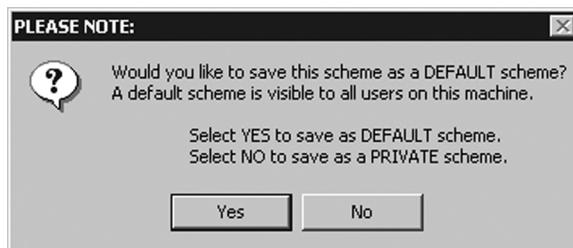

Figure 36
**Note:** If you make any changes to any of the settings of one of the three default schemes, the Current Scheme field will blank and you MUST SAVE your changes by clicking on the “Save As ...” button. When you click on the “Save As ...” button, the name of the last scheme you used will be automatically displayed, you can then choose to use that scheme name or enter a new name. If you enter a name other than one of the three default scheme names, the program will ask you if you wish to save the scheme as a DEFAULT scheme (figure 36 below). Click “Yes” to save the settings scheme as a DEFAULT scheme, click “No” to save the scheme as a PRIVATE scheme. After you have saved the scheme, then click OK and the new scheme will be in effect.